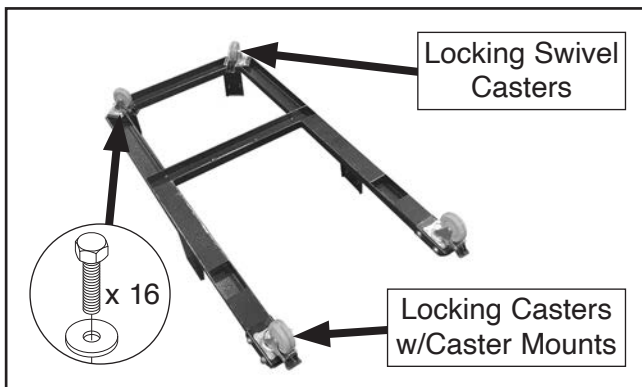

Figure 17. Locking casters attached to stand base.
1. Attach (2) locking swivel casters and (2) locking casters w/caster mounts to stand base with (16) $\frac{1}{4}$ "-20 x $\frac{3}{4}$ " hex bolts and (16) $\frac{1}{4}$ " fender washers, as shown in **Figure 17**.